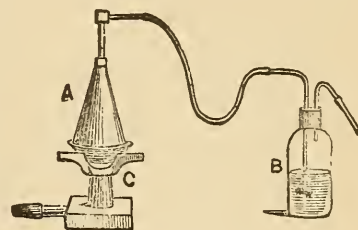

Fig. 9.
The material most convenient for obtaining oxygen gas for lime-light purposes is chlorate of potassa. Two parts of this material (by weight) is mixed with one part of powered black oxide of manganese (this is known as 'oxygen mixture'). The oxide of manganese does not supply any of the oxygen, but its presence facilitates the decomposition of the chlorate of potassa. The apparatus used for generating the gas is shown at Fig. 9. It consists of a copper or iron vessel (A), forming the retort or generator, a glass bottle-shaped vessel (B), which is the purifier, the two being connected together by a flexible tube. It will be seen that there are two tubes proceeding from the top of the purifier, one of which reaches nearly to the